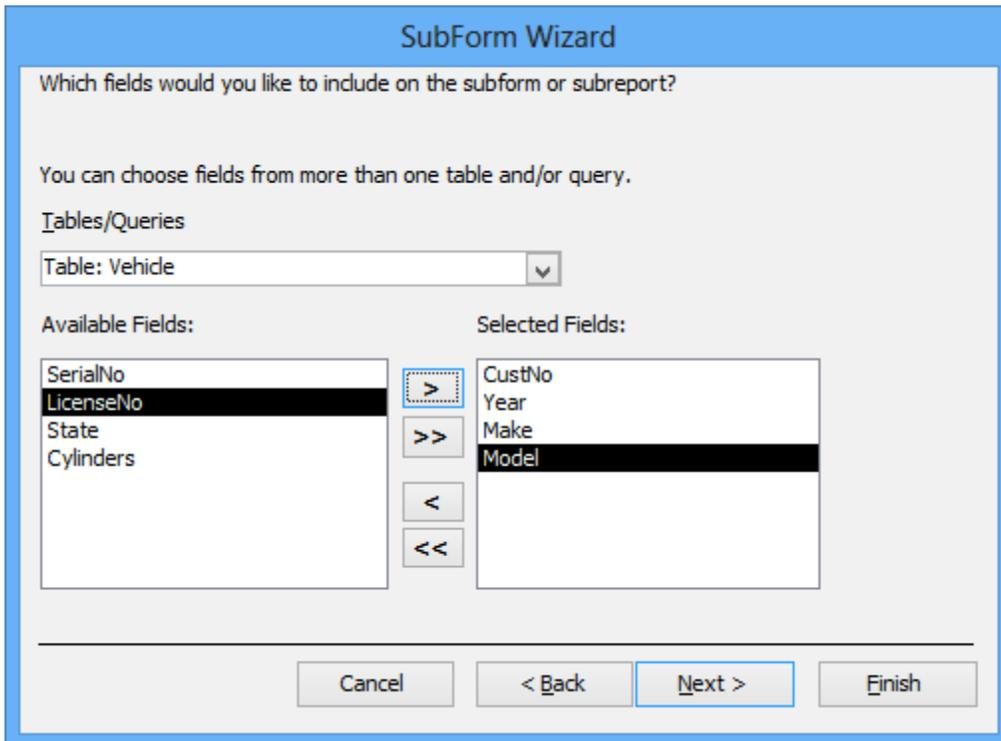

Figure 33: Choose Fields to Include on Subform
2. **Choose Fields for Subform:** In the Tables/Queries area, choose “Table:Vehicle”. From the left side (Available Fields) below, choose *CustNo*, *Year*, *Make*, and *Model* using the > button to move these fields to the right side (Selected Fields), as shown in Figure 33. Click **Next >** to continue.